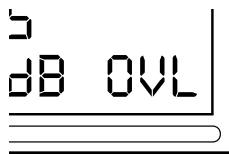

Figure 4
3. An ORANGE light and “OVL” in the bottom-right corner of the LCD screen of the frequency that is receiving an overload signal (refer to Figure 4) indicates that one or more of the frequencies has been turned off (or reduced) due to receiver overload. This reduction is to prevent the disruption of cell towers. The “Band Select” button must be pressed to cycle through the frequencies to find the Band that has the overload. Press the “DOWN” button to decrease the gain until you have an “OK” on the bottom-right corner of the LCD screen. The Signal Booster is now working with reduced gain. More than one frequency can overload at the same time. If one frequency is reduced and an OVERLOAD exists on another band, the light will remain orange. Repeat the process for all frequencies until a green light and “OK” are achieved. Contact Wilson Electronics Technical Support Team for assistance: 866-294-1660.